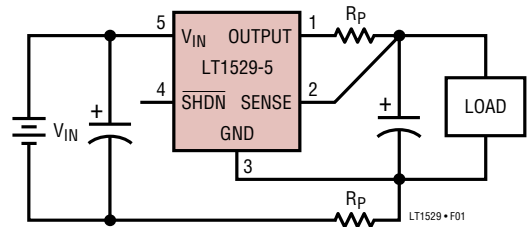

Figure 1. Kelvin Sense Connection
**SENSE (Pin 2):** SENSE Pin. For fixed voltage versions of the LT1529 (LT1529-3.3, LT1529-5) the SENSE pin is the input to the error amplifier. Optimum regulation will be obtained at the point where the SENSE pin is connected to the output pin. For most applications the SENSE pin is connected directly to the OUTPUT pin at the regulator. In critical applications small voltage drops caused by the resistance ( $R_P$ ) of PC traces between the regulator and the load, which would normally degrade regulation, may be eliminated by connecting the SENSE pin to the OUTPUT pin at the load as shown in Figure 1 (Kelvin Sense Connection). Note that the voltage drop across the external PC traces will add to the dropout voltage of the regulator. The SENSE pin bias current is 15μA at the nominal regulated output voltage. This pin is internally clamped to  $-0.6V$  (one  $V_{BE}$ ).